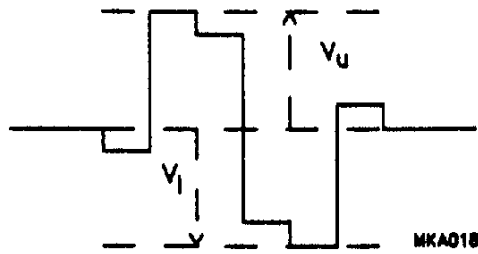

Fig.3 Non-linearity definition.
4. Measured as  $100\% \times (|V_U| - |V_L|) / (|V_U| + |V_L|)$ ; see Fig.3.